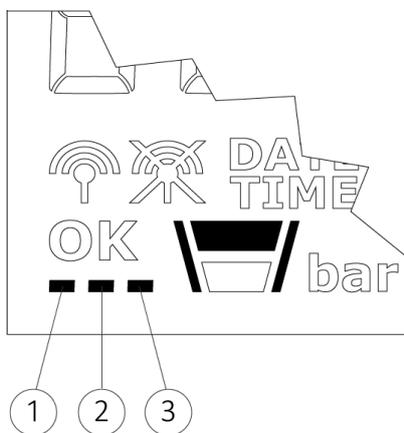

Figure 40: Display segments
In this tab, the optical communication can be enabled or disabled. Via the meter’s display segments in the lower left corner, you can see if the meter’s optical communication is disabled. If the display segment ③, see Figure 40, is shown continuously, the meter’s optical communication is disabled, and a short separation of the calculator top and base will temporarily activate the optical communications for 4 minutes. In this way, it is possible to read or configure the meter and to activate the optical communication permanently.